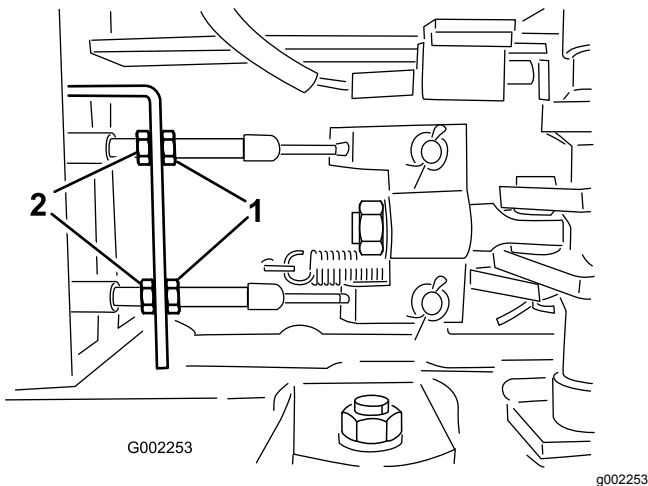

Figure 88
5. Loosen the front jam nuts on the brake cables under the front end of the sprayer (Figure 88).
6. Tighten the rear jam nuts equally until the brake pedal moves between 1 to 2 cm (1/2 to 1 inch) before you feel resistance (Figure 88).